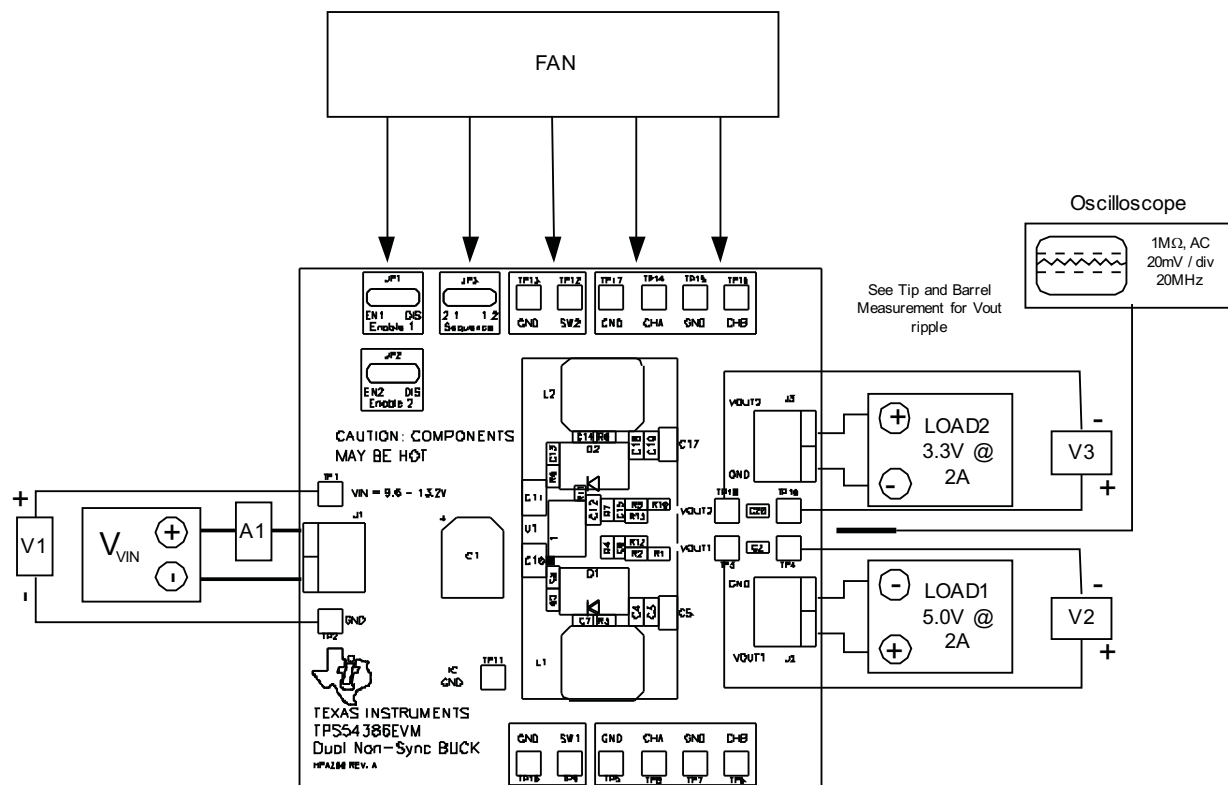

Figure 2. TPS54386EVM Recommended Test Set-Up
Shown in Figure 2 is the basic test set up recommended to evaluate the TPS54386EVM. Please note that although the return for J1, J2 and JP3 are the same system ground, the connections should remain separate as shown in Figure 2
2. Prior to connecting the dc input source, VIN, it is advisable to limit the source current from VIN to 5.0 A maximum. Make sure VIN is initially set to 0 V and connected as shown in Figure 2.
3. Connect the ammeter A1 (0-5 A range) between VIN and J1 as shown in Figure 2.
4. Connect voltmeter V1 to TP1 and TP2 as shown in Figure 2.
5. Connect LOAD1 to J2 as shown in Figure 2. Set LOAD1 to constant current mode to sink 0 A_{DC} before VIN is applied.
6. Connect voltmeter, V2 across TP3 and TP4 as shown in Figure 2.
7. Connect LOAD2 to J3 as shown in Figure 2. Set LOAD2 to constant current mode to sink 0 A_{DC} before VIN is applied.
8. Connect voltmeter, V3 across TP18 and TP19 as shown in Figure 2.
9. Place fan as shown in Figure 2 and turn on, making sure air is flowing across the EVM.